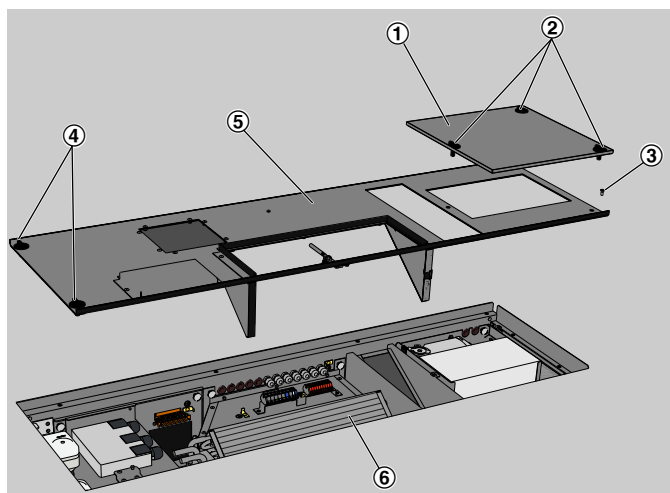

Fig. 26
3. ▶ Remove the cover of the filter chamber (Fig. 26/1). To do so, loosen the fasteners (Fig. 26/2).
4. ▶ Remove the inspection access panel (Fig. 26/5). To do so, loosen the Phillips screw (Fig. 26/3) and the two fasteners (Fig. 26/4). Put the inspection access panel aside.
5. ▶ Lift the heat exchanger (Fig. 26/6) out of the unit and put it aside.